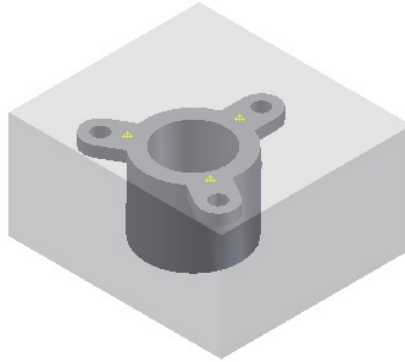

Figure 19-73 The workpiece created
3. Choose the **OK** button from the dialog box; the workpiece is created, refer to Figure 19-73.